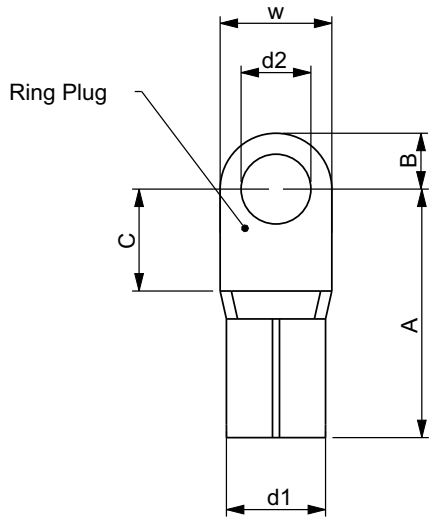

Figure 1
- For ≥ 15 kW, if the wire terminal is $> 10\text{mm}^2$ (AWG 6), the ring lug is required for main circuit terminal connection, please refer to **Figure 1** for the specifications of the ring lug.